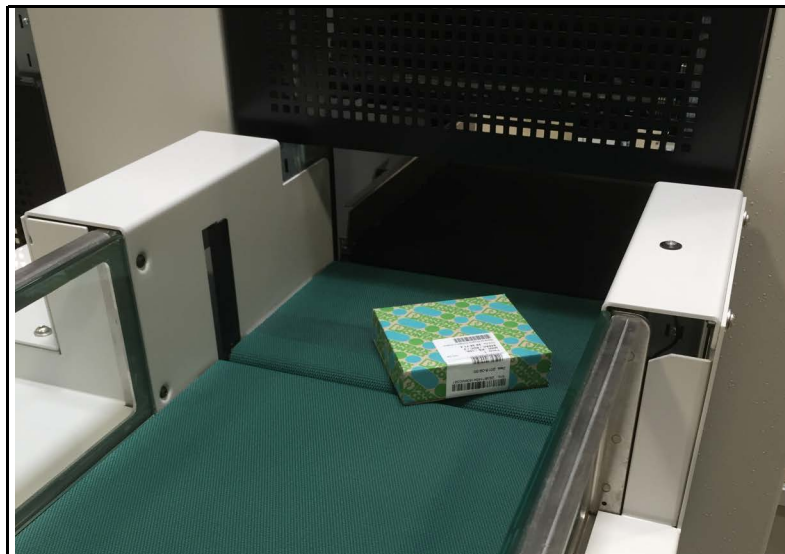

Figure 4-33: Imaging Conveyor Belt Delivers Item to iBOT
- The imaging conveyor belt carries the item to an awaiting iBOT (see Figure 4-33).